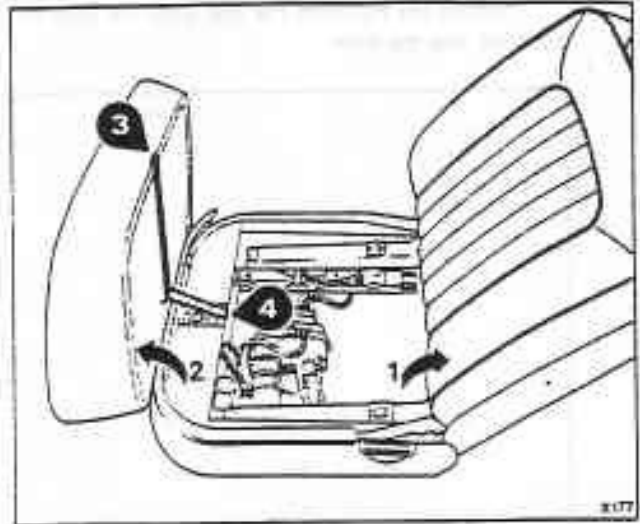
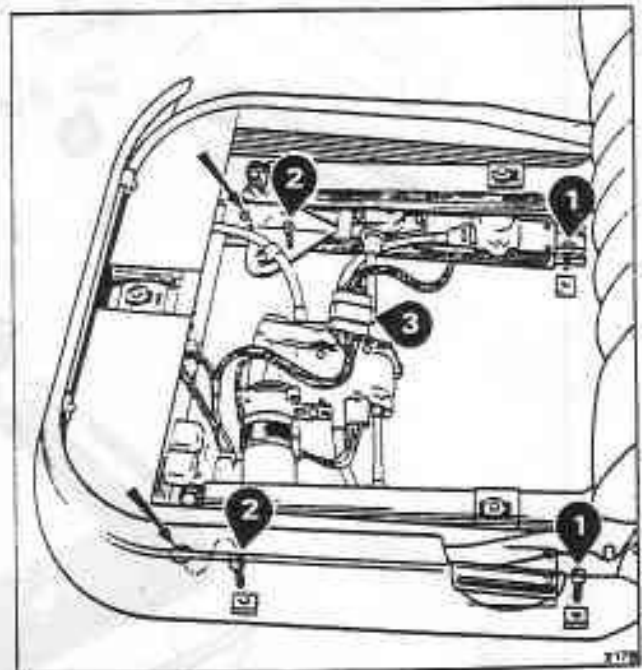

Fig. S5-1 Removing a seat cushion
Fig. S5-2 Removing a seat from the car
1. Ease the seat squab back on the rake mechanism (see fig. S5-1, item 1).
2. Loosen the seat cushion and pull it onto its forward edge (item 2). Unhook the securing strap from the rear of the cushion and from the front of the seat base (items 3 and 4); remove the seat cushion.
4. Operate the seat switch to move the seat as high and forward as possible. Then, remove the socket headed screws from the rear of the slide mechanism (see fig. S5-2, item 1); retain the tapping plates from beneath the seat mountings.
5. Energize the seat, moving it rearwards until the screws securing the front of the seat are visible through the access holes in the top of the seat base frame (item 2). Remove the screws and retain the tapping plate from under the outer seat mounting.
6. Disconnect the plug and socket (item 3). With the help of an assistant, remove the seat from the car.